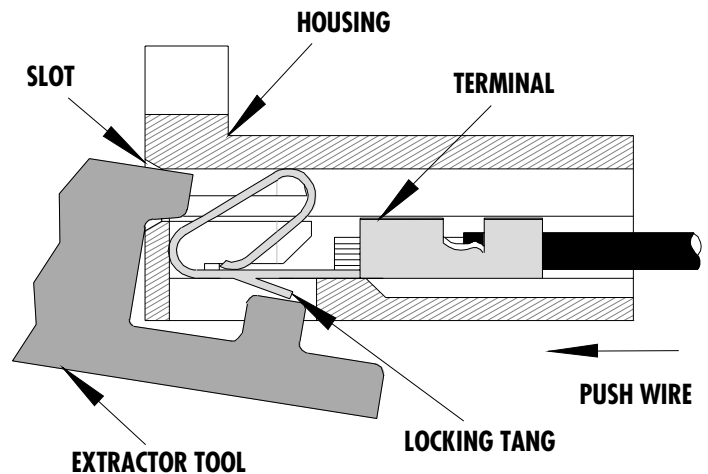

Figure 1
2. Insert the tool into the interface opening (slot) of the connector housing on an angle as shown in Figure 1.